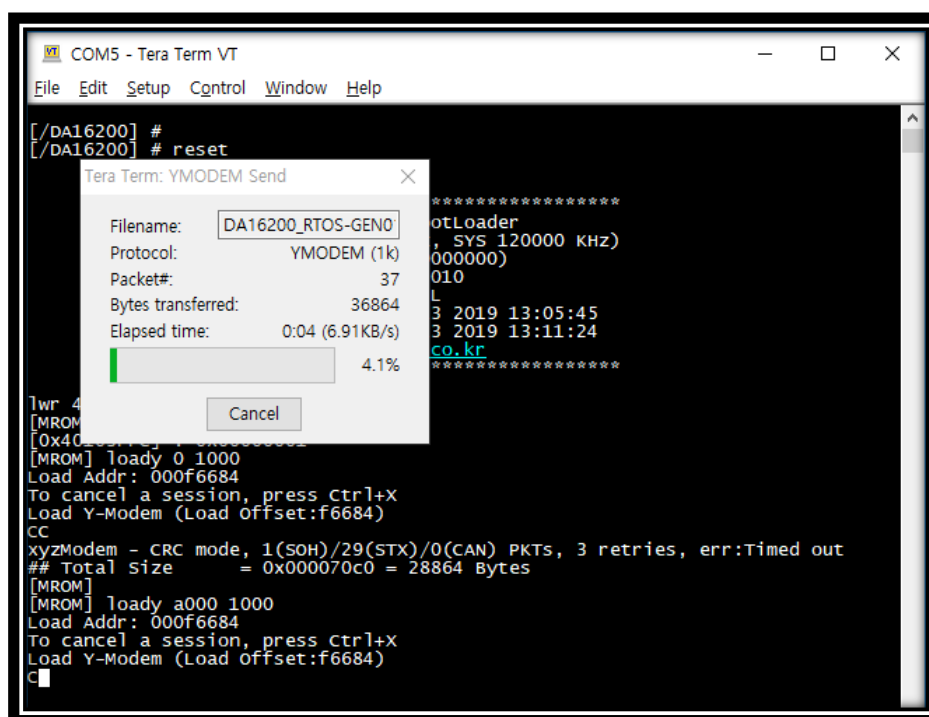

Figure 6. Download RTOS Image
3. Download RTOS image (see Figure 6).